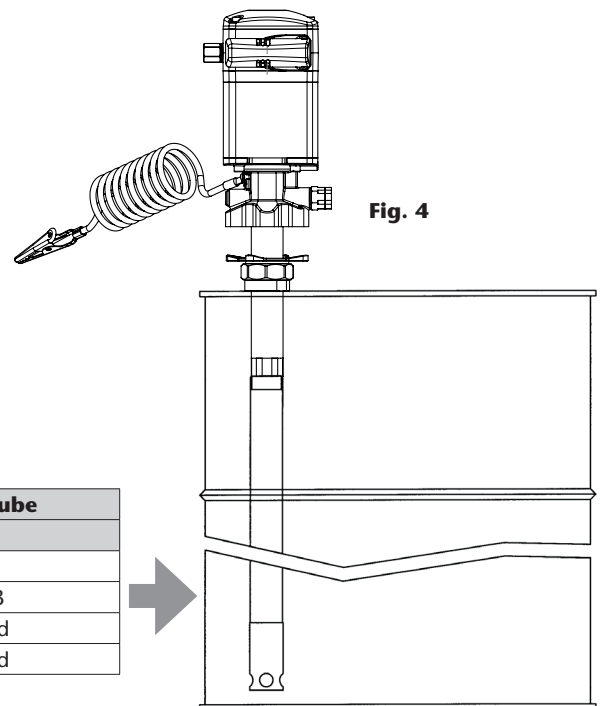

Fig. 4
- Adjustable drum or tank mounting, using bung adapter (360002). Screw the proper suction tube (see Fig. 4) to the foot valve of the pump. Screw the nut of the bung adapter to the 2" opening of the cover. Insert the suction tube through the nut and secure it with the star nut at the desired height.